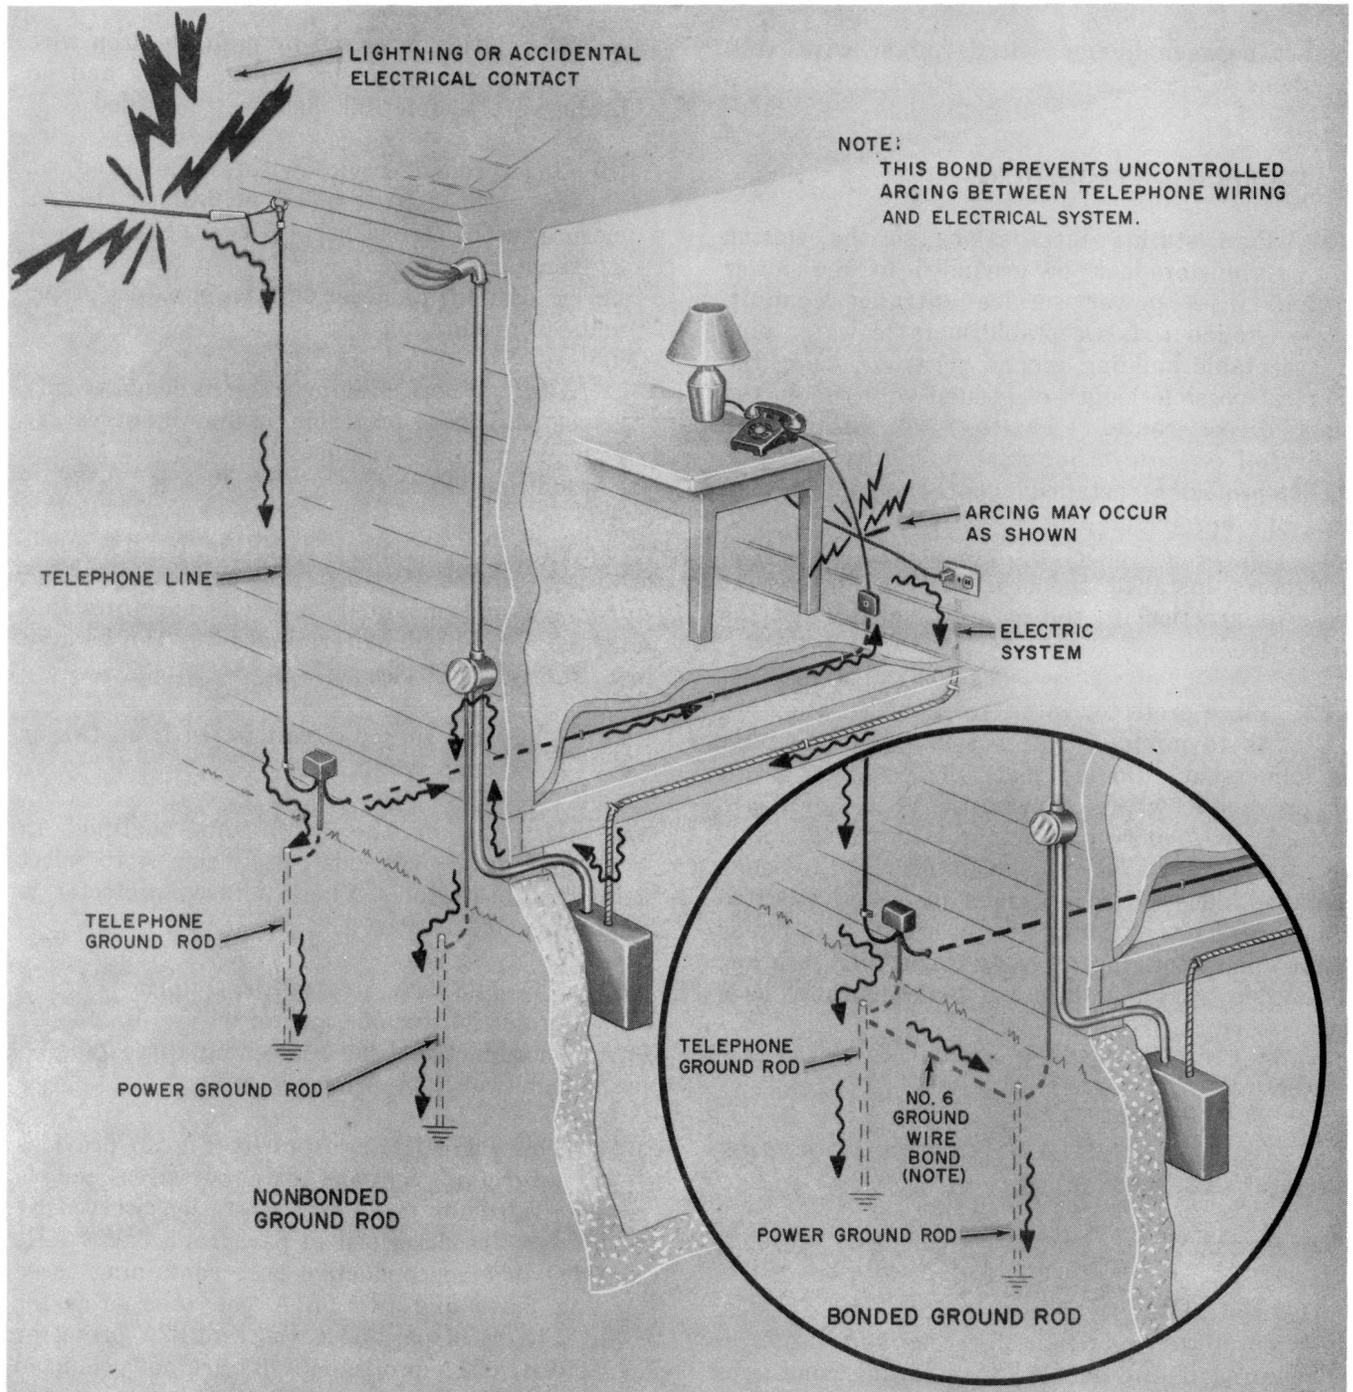

Fig. 1—How Bonding Reduces Differences of Potential Between Telephone Wiring and Electrical Systems That are Grounded to Separate Electrodes
1.08 Nearby lightning strokes can develop large potential (voltage) differences between telephone wiring, power wiring, water pipes, and building steel. Therefore, it is important these systems be bonded together on the telephone premises of the customer and the bonding conductors be as short and as straight as possible (Fig. 1).